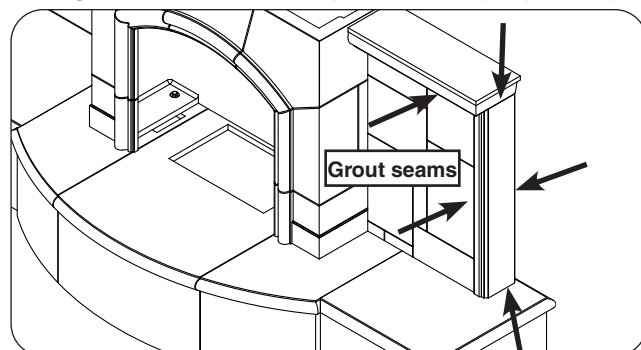

Fig. 25-5 Grout seams (skip if n/a)
7. The seams of the side wall pieces must be finished with a sanded grout (not included) according to color preference (see Fig. 25-5). The grout can be purchased at a local hardware store. Follow all instructions provided with the grout.